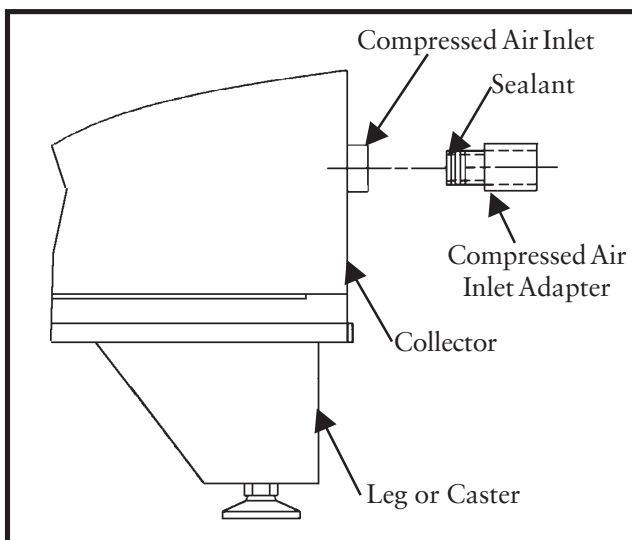

Figure 3
2.5.1 Compressed Air Inlet Adapter (See Figure 3 Compressed Air Inlet Adapter)
The compressed air inlet adapter is used for converting the compressed air inlet from National Pipe Threads to British Pipe Threads. Install the compressed air inlet adapter as shown in Figure 3 Compressed Air Inlet Adapter. Use thread-sealing tape or pipe sealant on the threaded adapter before screwing it into the compressed air inlet.